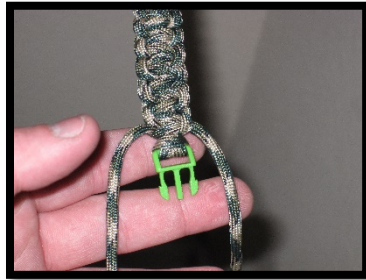

Figure 5.1
- The last knot needs to be very tight. Do not be afraid to break the cord, it is nearly impossible. The last knot should look smaller than the rest of the knots. (Figure 5.1)